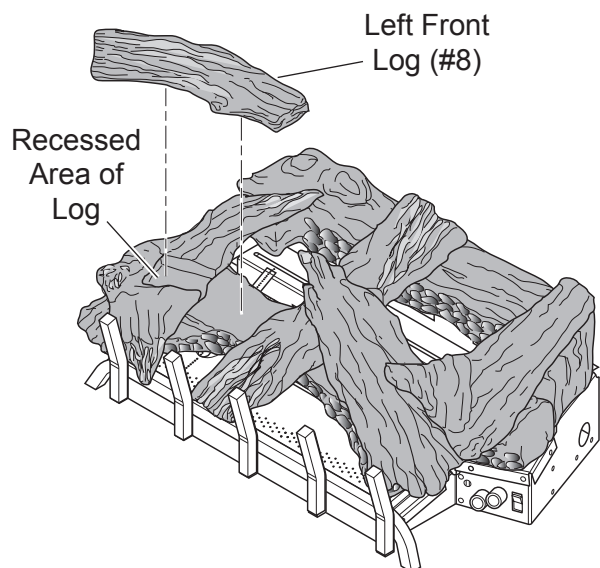

Figure 37 - Installing Left Front Log (#8)
8. Lay back end of left front log (#8) in recessed area of middle of center top log. *See Figure 37.*